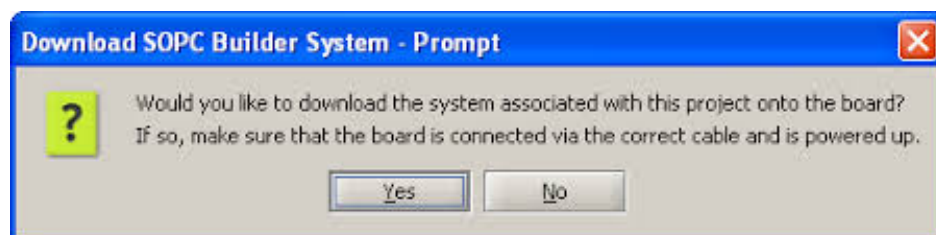

Figure 14: Window with a message asking for downloading the hardware system configuration of the DE0-Nano board.
4. After clicking **Finish**, a new window is shown (see Figure 14). A message asks for allowing the DE0-Nano board to be reconfigured. Press **Yes** to configure the FPGA device that is integrated on the board. After clicking **Yes**, note in the window called *Info & Errors* that the program `nios2-configure-sof` is automatically executed.